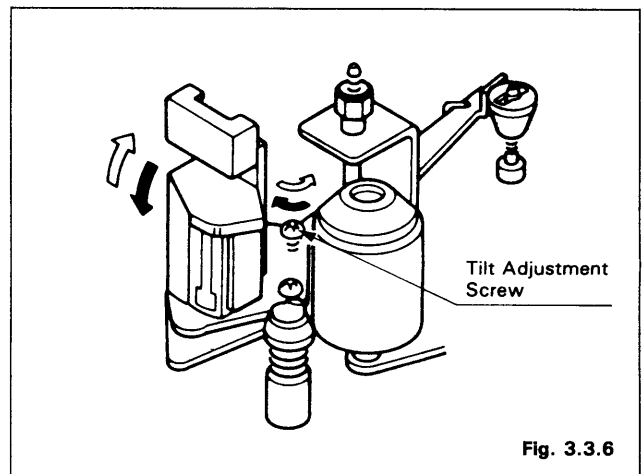

Fig. 3.3.6
- Confirm that the tape running between the tape guide roller and ACE head has no slack. If the tape has slack, take it up by turning the tilt adjustment screw (Refer to Fig. 3.3.6). Then readjust GUIDE ROLLER HEIGHT (Refer to Section 5.2.3) and the X VALUE (Refer to Section 3.1.4 (3)).